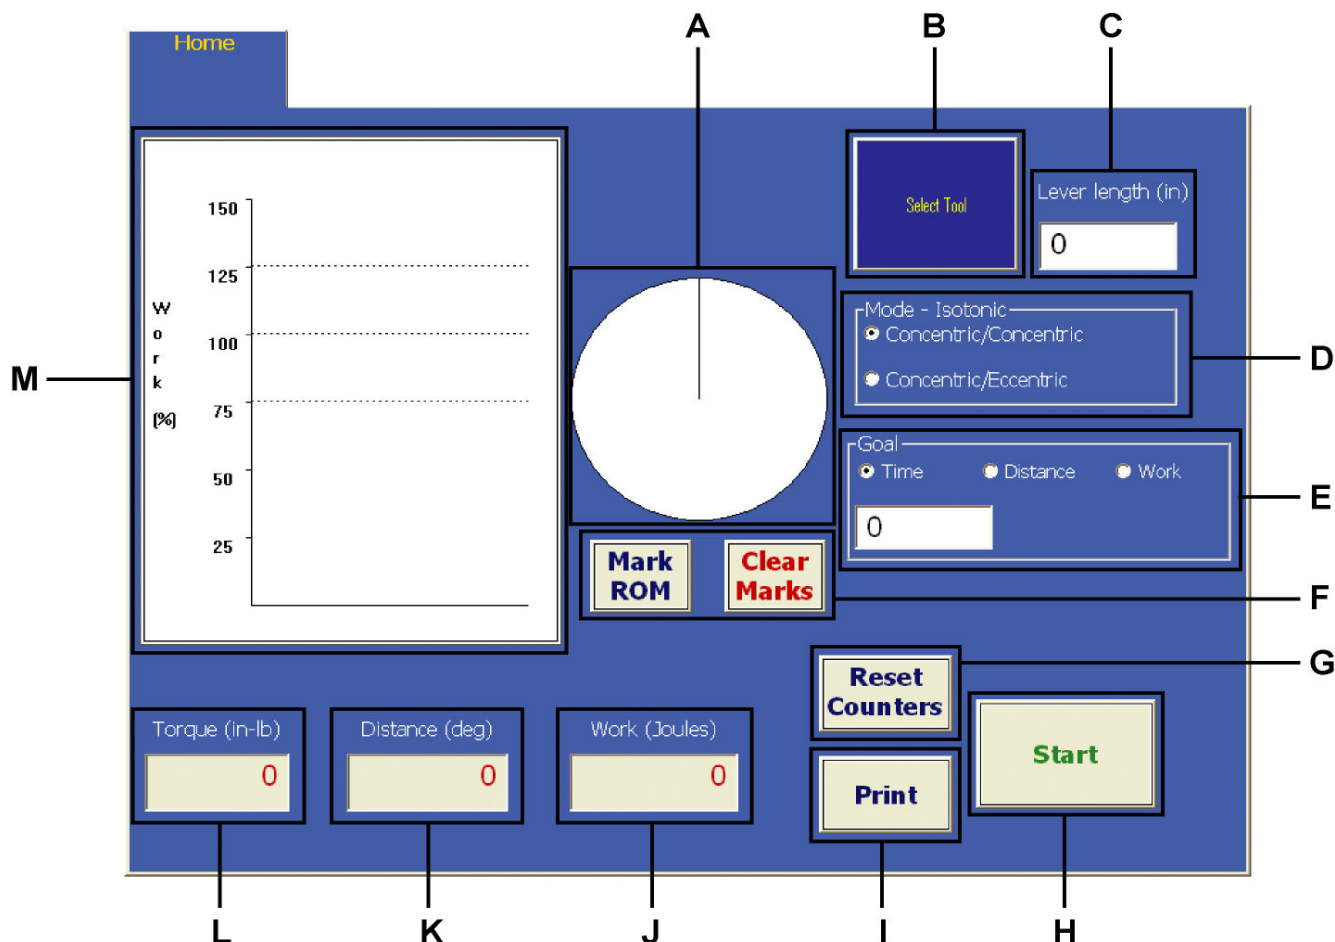
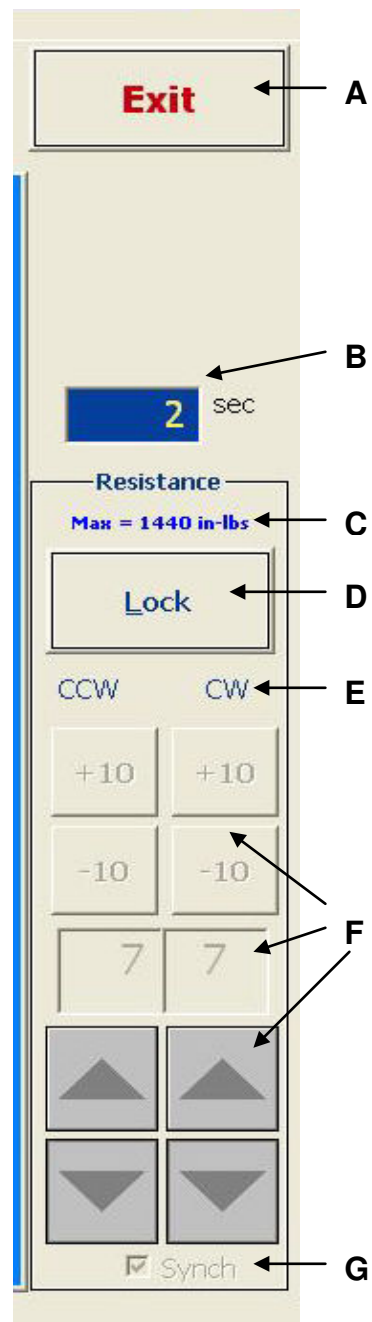

Figure 2e
Figure 2f
The first active screen you will see – *Home* – is highlighted in blue (Figure 2e). *Home* is the first of a series of section titles which appear on the top of the screen. On the right side of the screen is the Control Panel (Figure 2f). This panel is present when in any test- or exercise-related tab as it enables you to alter exercise settings (such as resistance).
**Note:** If you select “Concentric/Eccentric” operation (Figure 2e - D), the CCW and CW become “CON” and “ECC” respectively.
- Step 1. Start the exercise, as described in Section 2.3.1. At this point, DO NOT click the resistance controls (Figure 2f– F).
- Step 3. Still holding “CTRL,” click or touch the force display window (the field showing a numerical value in (Figure 2f – F).
- Step 4. Having performed Step 3 correctly, you will notice that the “Synch” checkbox at the bottom of the Control Panel is now activated (Figure 2f - G).
- Step 5. Click “Synch” (Figure 2f - G) to remove the checkmark from the small box. This will enable you to set unequal forces in each direction.
- Step 6. Use any of the resistance controls in Figure 2f – F to freely change forces now.